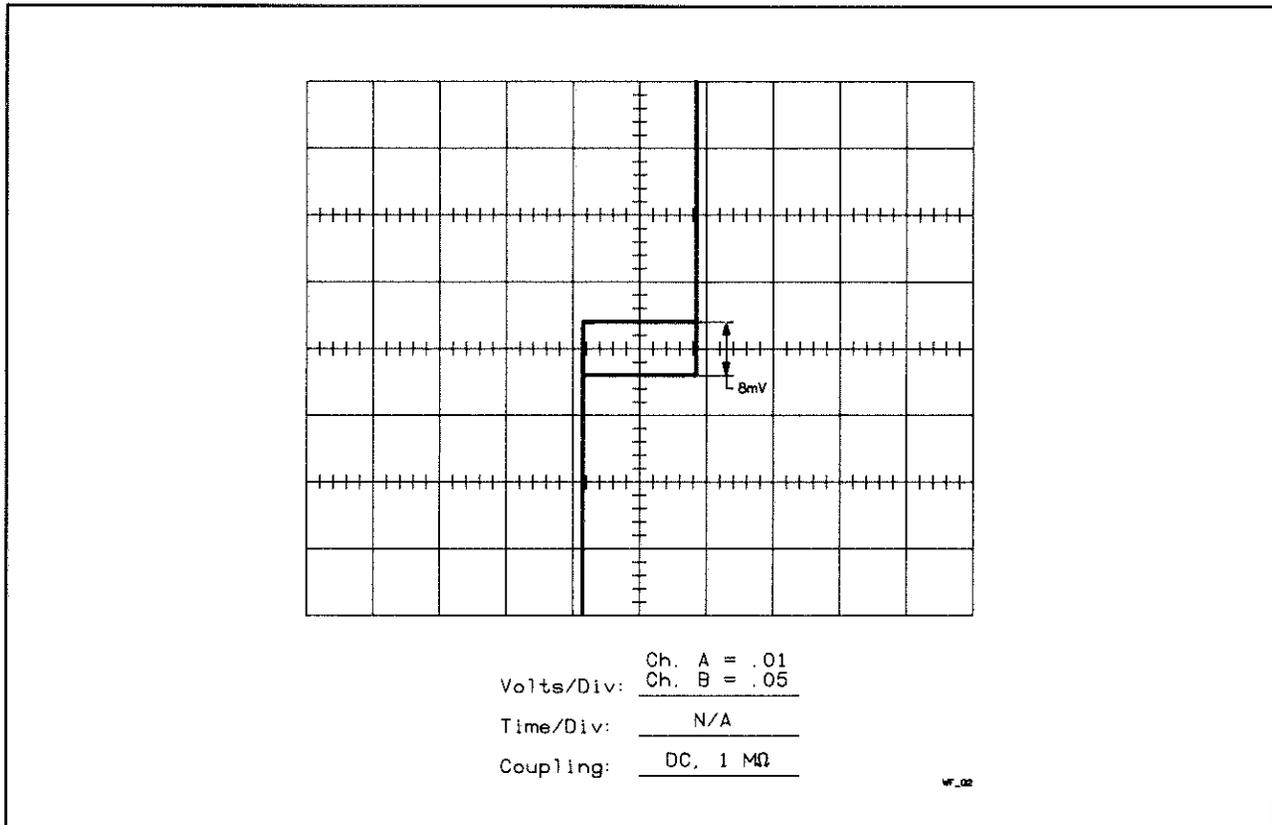

Figure 3-14. Comparator Hysteresis Width
- B. Set the oscilloscope HORIZONTAL DISPLAY to X-Y. A hysteresis waveform similar to the *Figure 3-14* should be displayed.